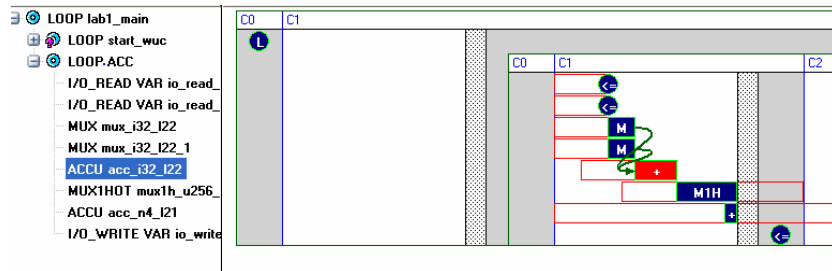

Figure 10a Forward Cross-probing
- ✓ Double-click on the “+” in the C source code and select the “Schedule” icon. Click OK. Note how this forward crossprobes to the Gantt chart (Figure 10a).